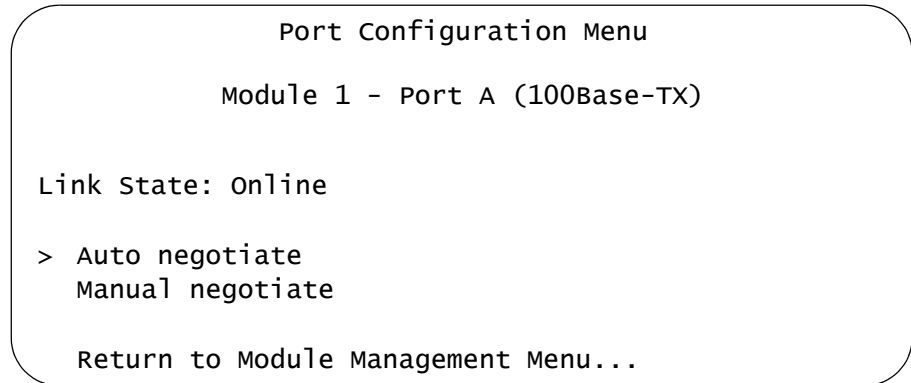

Figure 43. Port Configuration Menu for the 10/100Base-TX Port on the AT-CV5M02 Management Card
3. Select **1: A (100Base-TX)** to display the Port Configuration Menu shown in Figure 43.